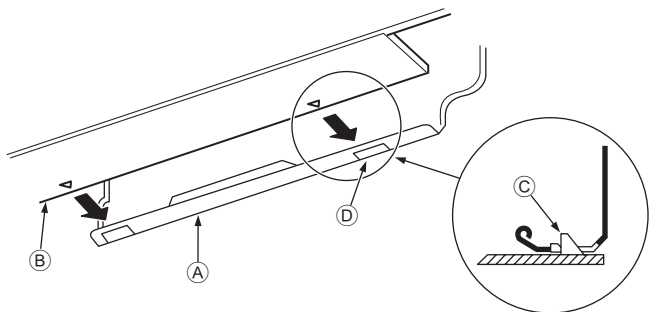

Fig. 3-15
3. While inserting the refrigerant piping and drain hose into the wall penetration hole (penetration sleeve), hang the top of the indoor unit to the mount board ①.
5. Fasten by pushing the bottom part of the indoor unit onto the mount board ①. (Fig. 3-15)
* Check that the knobs on the bottom of the indoor unit are securely hooked into the mount board ①.
① Mount board
② Indoor unit
③ Hook
④ square hole